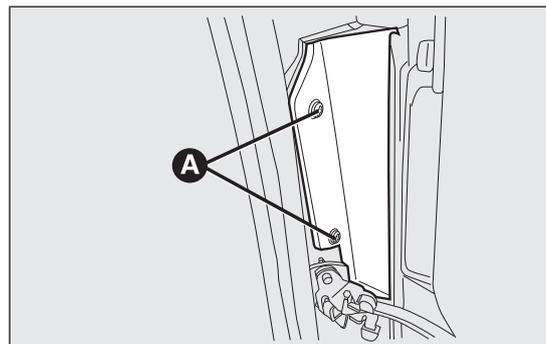
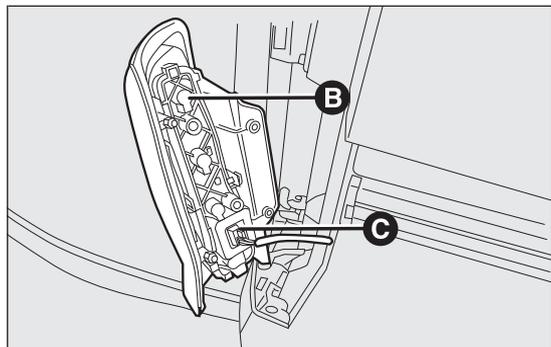

fig. 140
fig. 141
- loosen the screws A fig. 140 so as to access the light cluster B fig. 141;
- remove the connector C fig. 141.